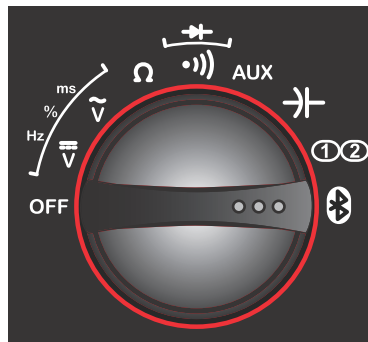

Figure 14-3 Rotary switch Remote Functions setting
6. With Bluetooth Discovery enabled, turn the M2 Scope/Meter Rotary Switch to the Remote Functions position (Figure 14-3).